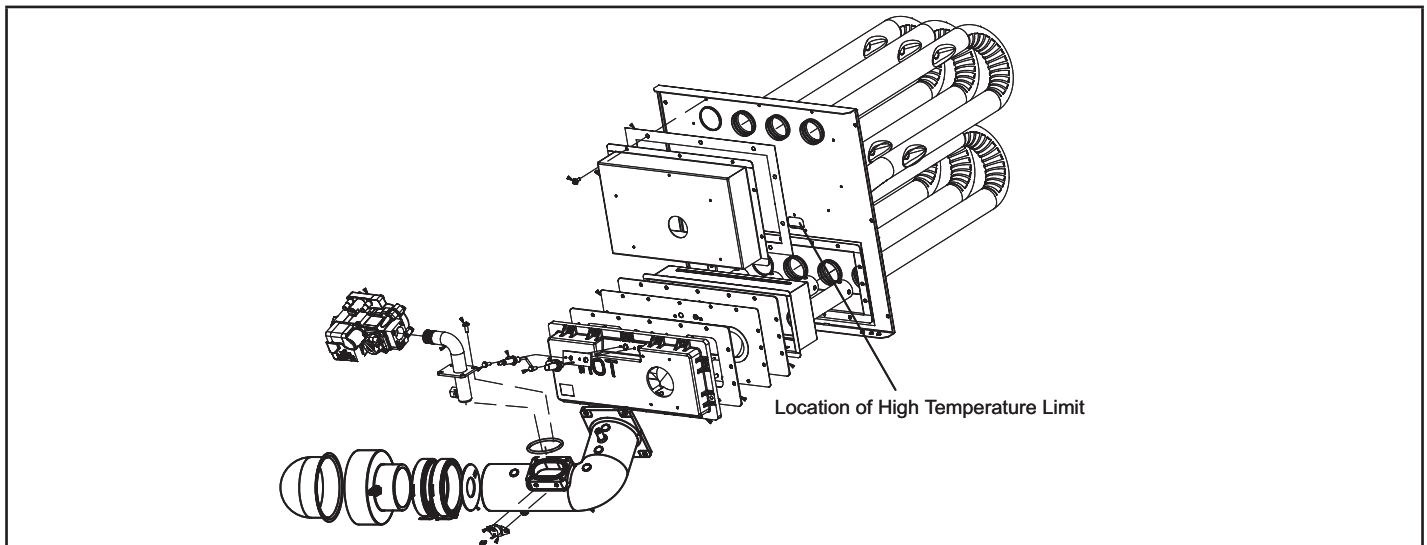

FIGURE 2
- b - Install 350° high temperature limit in the middle of the vest panel. See figure 2.
- b - Install 250° high temperature limit in the middle of the vest panel. See figure 2.